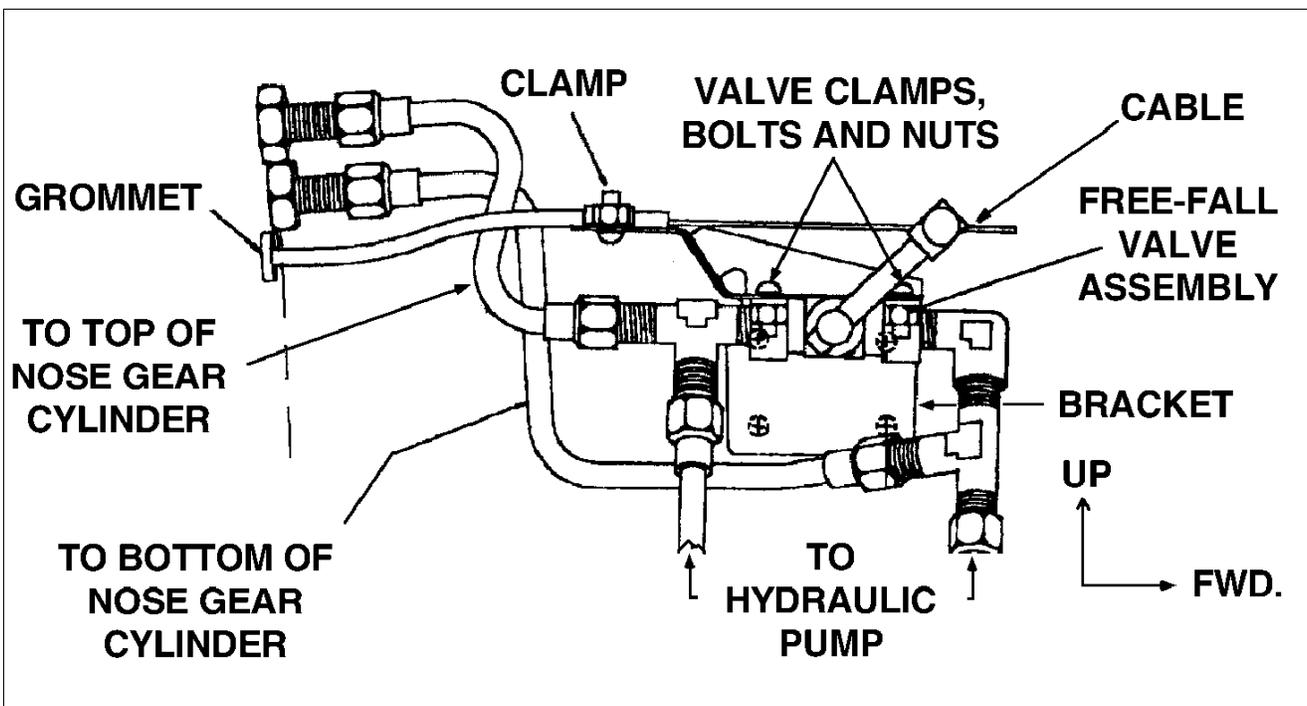

Figure 32-16. Free-Fall Valve Assembly
A. Removal of Free-Fall Valve Assembly. (Refer to Figure 32-16.)
- (1) Loosen screw securing cable to valve arm.
- (1) Note direction of tees and elbows connected to valve. Remove tees and elbows.
B. Installation of Free-Fall Valve Assembly. (Refer to Figure 32-16.)
- (1) Apply Tite Seal No. 3 in back of first two male threads of elbows and tees. Tite Seal should be applied sparingly to prevent it entering the hydraulic system.